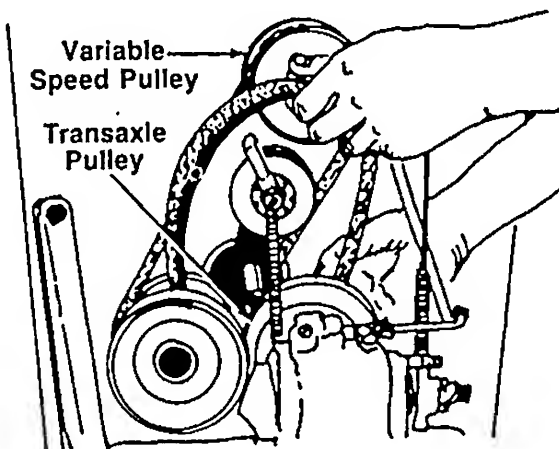

FIGURE 19.
6. Slip the "V"-belt off the variable speed pulley and transaxle pulley. See figure 19.